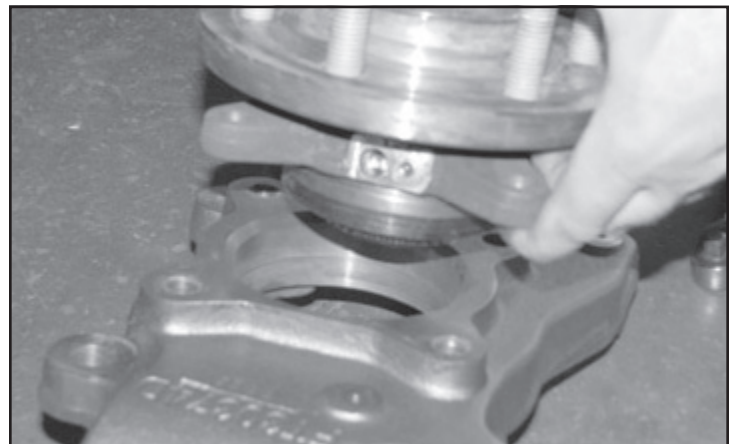

FIGURE 42 - STEP 45
45. Locate the Fabtech driver side spindle (FTS30494D) and install the factory hub. Torque the four 14mm bolts to 160 ft- lbs. **SEE FIGURE 42**